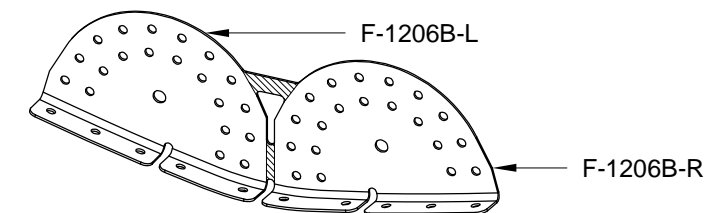

FIGURE 3: SEPARATING F-1206B
Step 7: Separate F-1206B by removing the hatched areas shown in Figure 3.